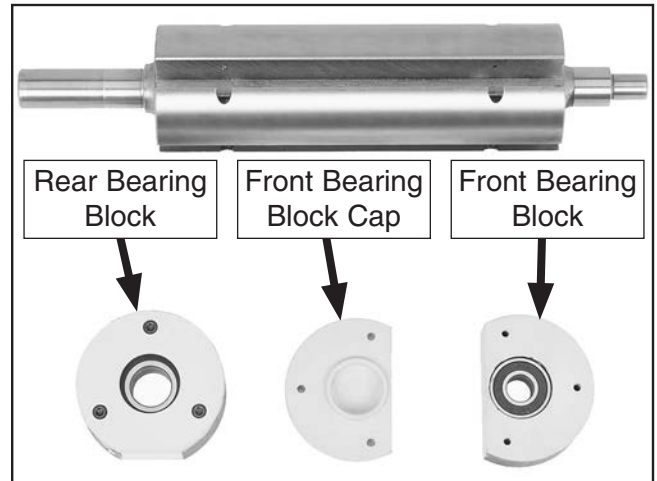

Figure 14. Disassembled cutterhead assembly.
- Repeat **Steps 22–23** in a similar manner to remove the cutterhead from the front bearing block and bearing. **Figure 14** shows the disassembled components.